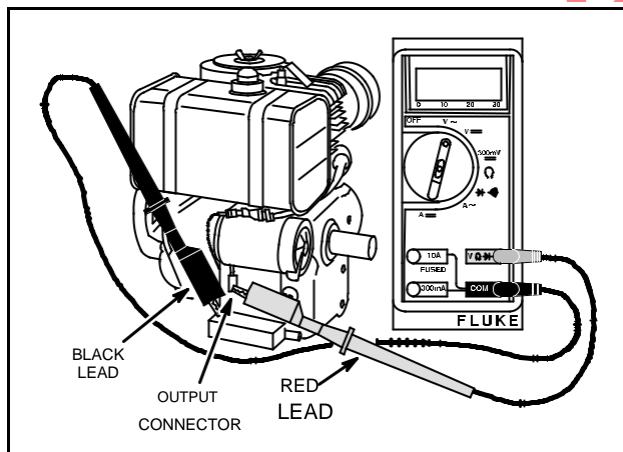

Fig. 759 – TESTING AC OUTPUT
4. Attach RED test lead clip to AC output terminal, Fig. 759.